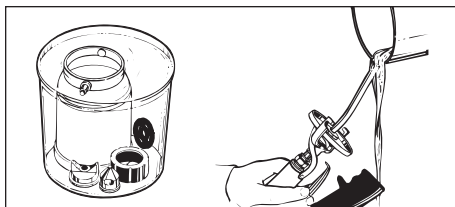

Figure 12 - Cleaning Spray Gun Parts
3. Place retaining ring, air cap, air flow ring and the paint cup in a bucket or other suitable container. Soak in an appropriate solvent, or in soap and water if latex was used. To clean the gun, pour solvent through material tube until the solution clears (See Figure 12).